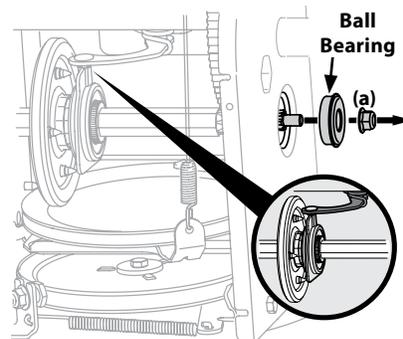

Figure 4-16
- Carefully remove hex nut (a) which secures hex shaft to frame and lightly tap the shaft's end to dislodge ball bearing from right side of frame. See Figure 4-16.
NOTE: Make sure shift lever pin is in place in bearing housing. See Figure 4-16 inset.